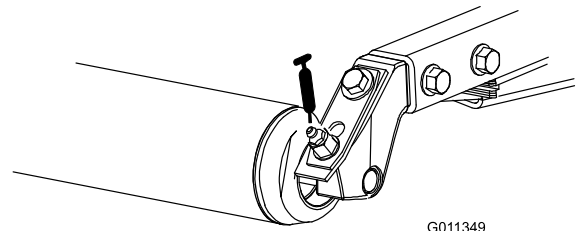

Figure 49
- Rear roller bearings (2 per cutting unit) (Figure 49)